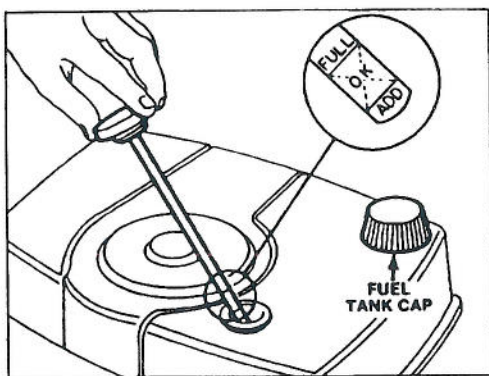

Figure 4
3. Wipe dipstick and insert it into filler neck. Rotate cap clockwise 1/4 turn. Then remove dipstick and check level of oil (Fig. 4). If level is low, add only enough oil to raise level to FULL mark on dipstick. **DO NOT FILL ABOVE FULL MARK BECAUSE ENGINE COULD BE DAMAGED WHEN STARTED.**